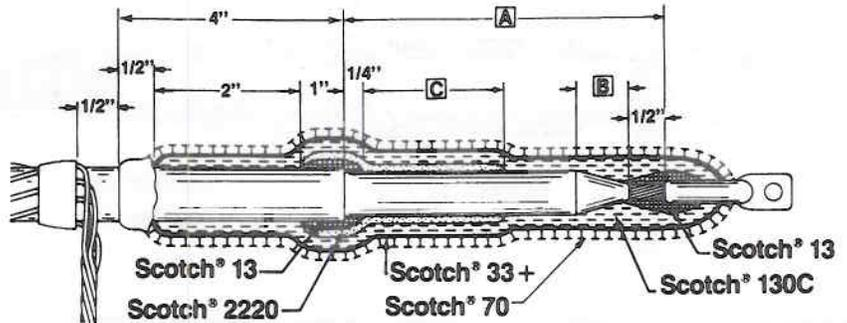

FIGURE 1
3. Wrap two half-lapped layers of 13 Tape 1" on cable jacket to 1/4" onto cable insulation. See Figure 1.
1. Wrap two half-lapped layers of 2220 Tape over 13 Tape and cable insulation to dimension C. See Figure 1 and Table III for dimension C. STRETCH 2220 TAPE TO 3/4 OF ORIGINAL WIDTH.